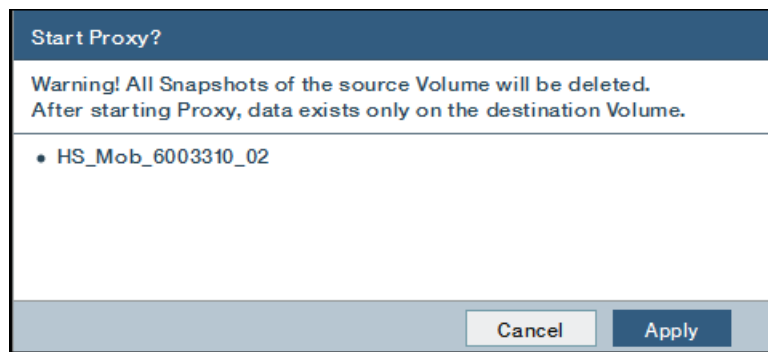

Figure 3-19 Snapshot deletion warning on proxy start
2. As shown in Figure 3-19, a warning message is displayed, indicating that any source volume snapshots that exist are deleted if the proxy is started.